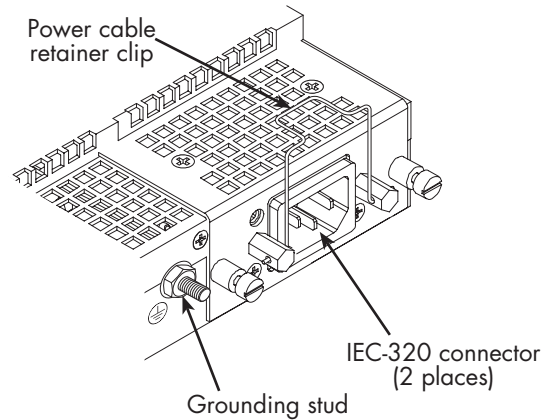

Figure 6. IEC-320 connector and grounding stud locations
2. Install the ground wire between the grounding stud (see figure 6) and the grounding source.
2. Install a power cable into an IEC-320 connector (see figure 6 on page 22).